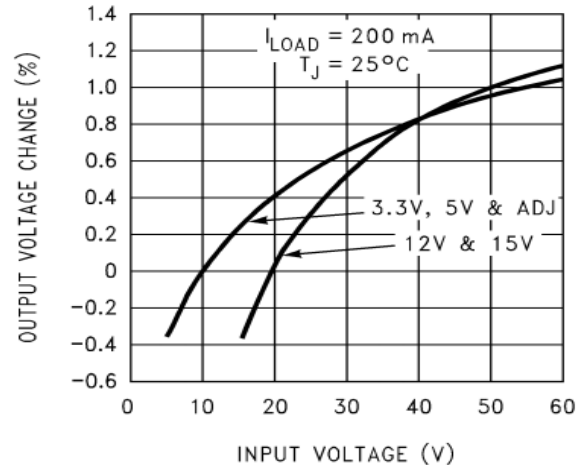

Figure 2. Line Regulation
- External components such as the catch diode, inductor, input and output capacitors can affect switching regulator system performance. When the LM2575S is used as shown in the Figure2 testcircuit, system performance will be as shown in system parameters section of Electrical Characteristics.